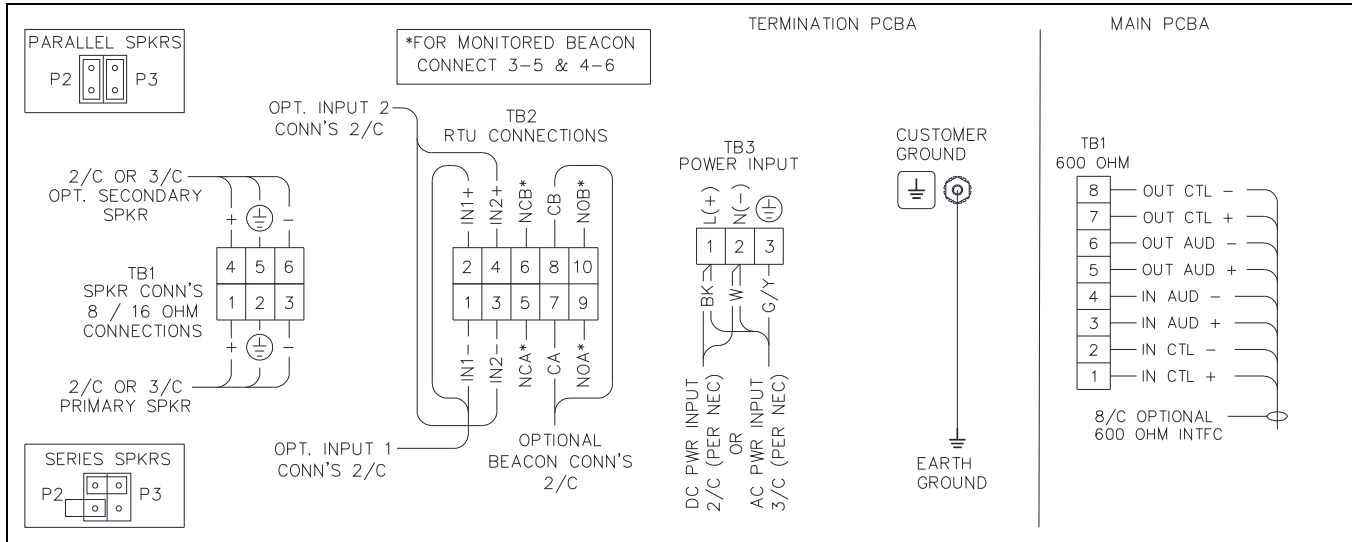

Figure 4. SP2 Connection Diagrams
SP2 stations provide terminal blocks, on the termination PCBA, located in the rear enclosure, for field wiring the power, speaker, and RTU connections. The main PCBA, mounted to the back of the front panel, provides a pluggable terminal block for the 600-ohm audio connection (see Figure 4). The fiber termination PCBA, mounted on top of the main PCBA, provides fiber optic termination to the (customer supplied) Ethernet SFP transceiver (see **Error! Reference source not found.**).
2. Secure it to the ground terminal located in the lower right corner at the back of the rear enclosure (see Figure 4).
5. Configure the speaker jumpers, P2 and P3, for the impedance of the connected speakers (see Figure 4).